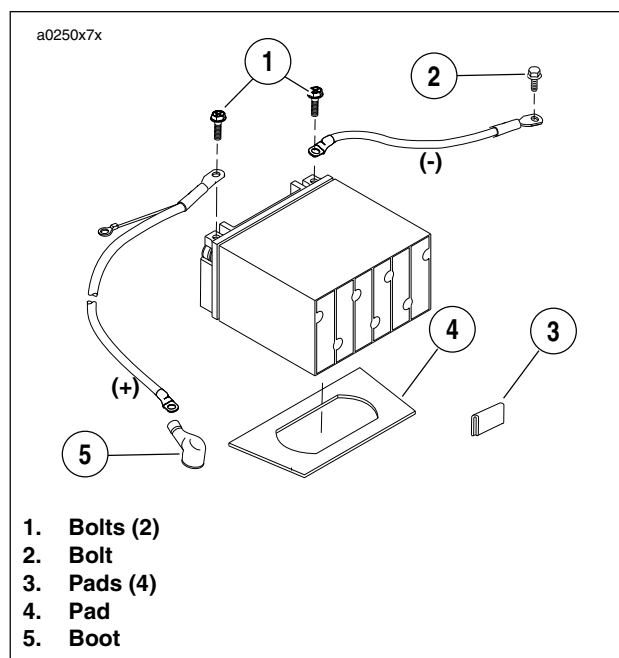

Figure 7-61. Battery Installation
2. See Figure 7-61. Insert bolt through battery positive cable (red) into threaded hole of battery positive (+) terminal. Tighten bolt to 72-96 **in-lbs** (8-11 Nm).